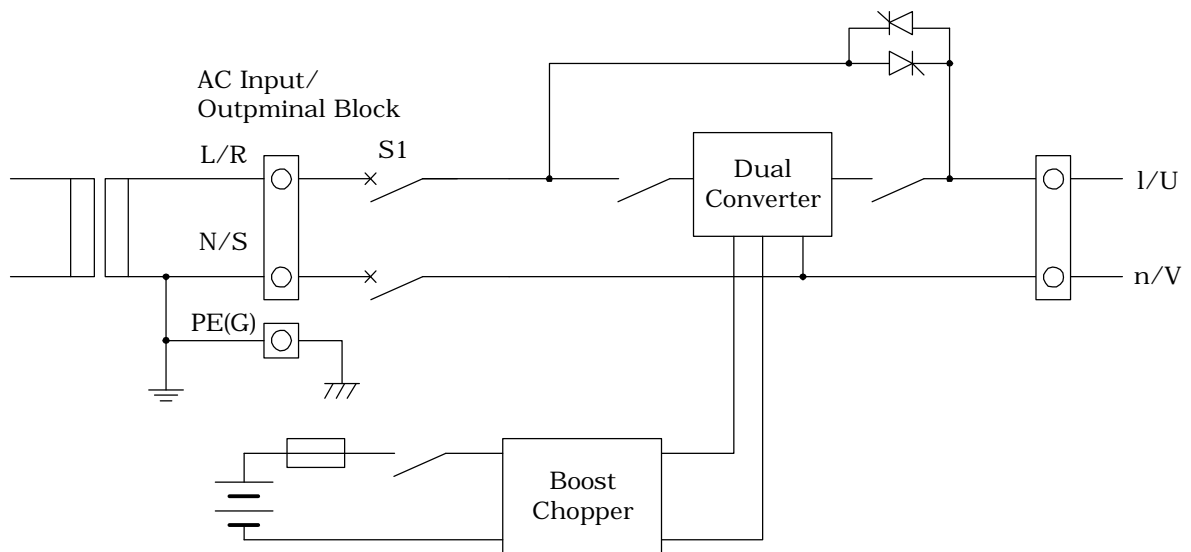

Figure 1 - Circuit diagram of Models M-UPS050AD1C-U or M-UPS050AD1B-U
- Wire size and tightening torque are shown in Table1 and Table2. Circuit diagrams are shown by figure 1. UPS must be set up with flexible conduit.